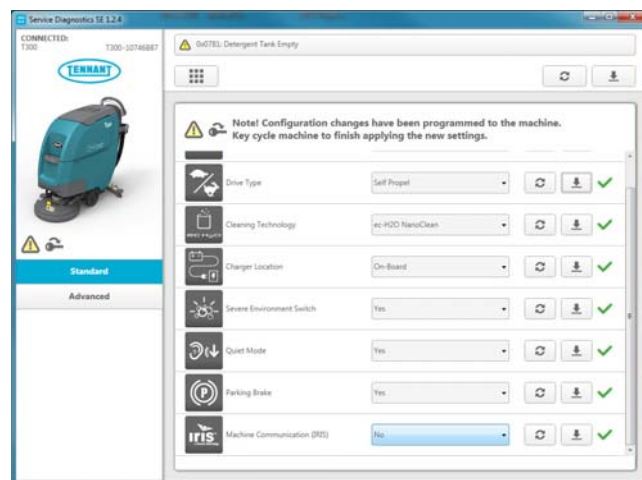

Fig. 12
- Check and correct the installed options (Figure 12). Then press the down arrow button to program the machine. A green check will appear next to the down arrow button when programmed.